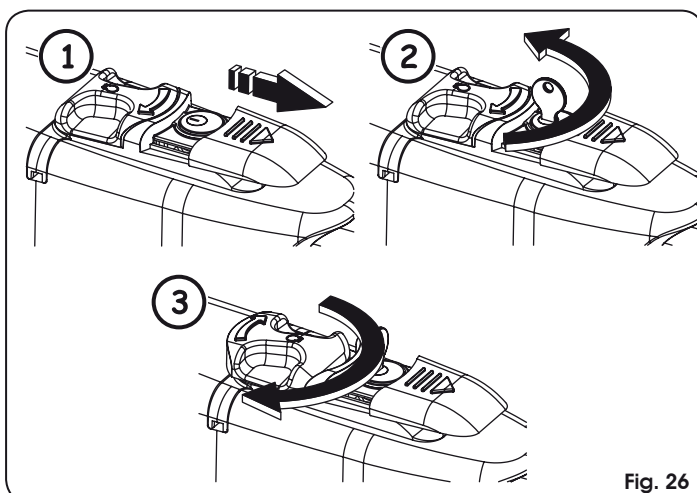

Fig. 26
2. Slide the protective cap, Fig. 26/1.
3. Insert the key and turn it 90°, Fig. 26/2.
4. To release the operator turn 180° the control lever to the direction indicated by the arrow on the release system, Fig. 26/3.